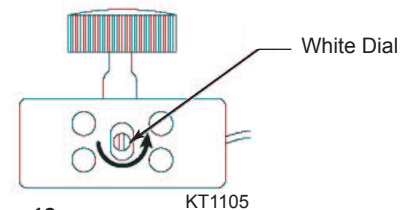

Figure 12
3. If blower does not turn on, turn the fireplace off and allow to cool. Using a small jeweler's style screwdriver, turn the white dial on the side of the speed control 1/8 turn counterclockwise. *Figure 12*. This will allow the blower to start at a lower speed setting as the fireplace cycles on and off. Retest blower.